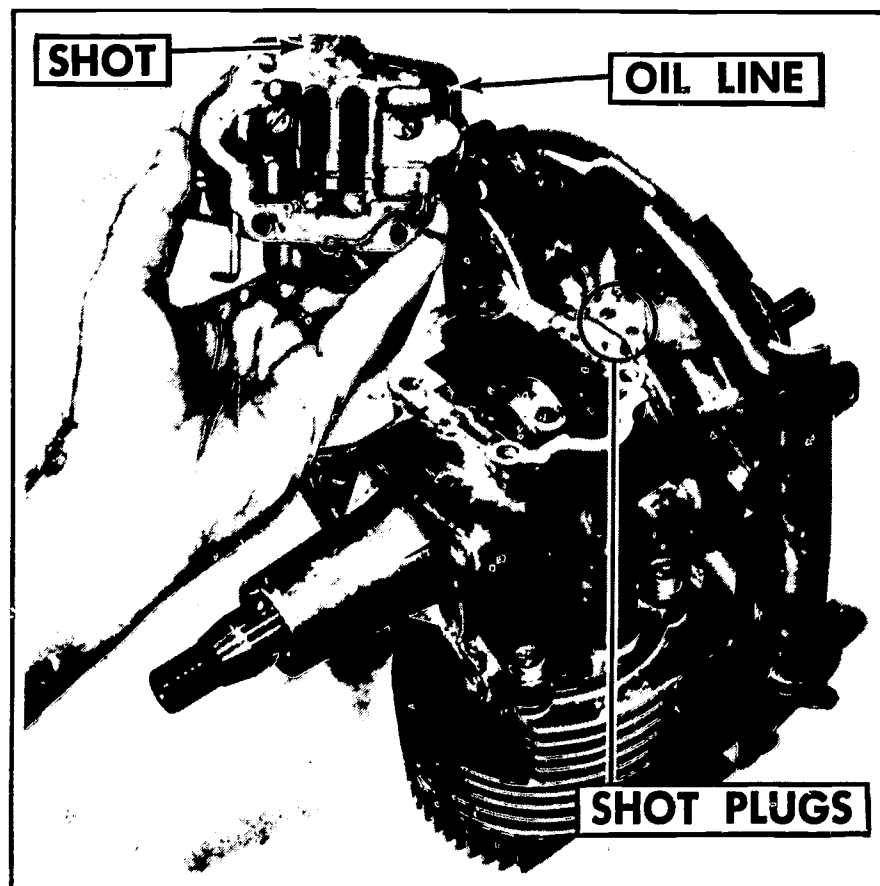

FIGURE 228. Check shot plugs and oil lines if present on your assembly.
3. Clean and inspect parts (Figure 228).